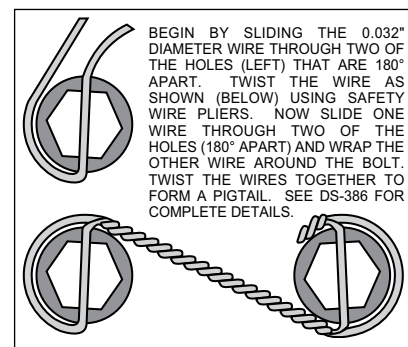

Figure 4. Safety Wire Diagram
- Install five new wheel studs (3) into the hub (4). Torque to 77 ft-lb. **NOTE:** There are two five lug patterns in the hub (5 x 4.50 and 5 x 4.75). Make sure of the correct hole pattern for the correct wheel application before installing studs into hub.
- Pack the large inner bearing cone (5) with high temperature disc brake bearing grease (available from your local auto parts store) and install into the backside of the hub (4).
- Install the grease seal (6) by pressing into the backside of the hub (4).
- Pack the small outer bearing cone (12) with high temperature disc brake bearing grease and install into front side of the hub (4). Slide the hub assembly (4, 5, 6 and 12) onto the spindle. Secure using spindle washer (13), stock adjusting nut, and nut locking device. Adjust wheel bearing pre-load per Original Equipment Manufacturer (OEM) specifications.
- Install the O-ring (14) and the dust cap (15) into the hub (4). **NOTE:** O-ring (14) friction will not allow cap (15) to unscrew on its own.
- With the larger I.D. side of the rotor (7) facing away from the hat (8), bolt rotor (7) to hat (8) through the backside of the rotor using washers (9) and bolts (10). Apply red *Loctite*® 271 to the bolt threads and torque to 155 **in-lb** using a criss-cross pattern. For an added measure of security, the bolts may be safety wired using standard 0.032 inch diameter stainless steel safety wire as shown in Figure 4. Please refer to Wilwood's data sheet DS-386 (available at www.wilwood.com/Pdf/DataSheets/ds386.pdf) for complete safety wire installation instructions.
- Slide the rotor/hat assembly over the studs (3) in the hub (4) taking care to align the small countersunk holes in the hat (8) with the small threaded holes in the hub (4). Install three flat head socket head screws (11) through the small holes in the hat (8) and torque to 85 **in-lb**. Check to be sure the hat seats squarely against the hub face.